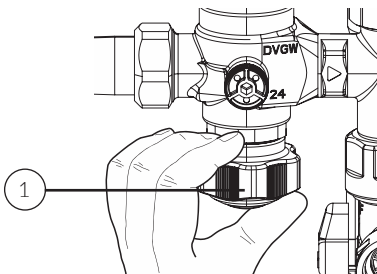
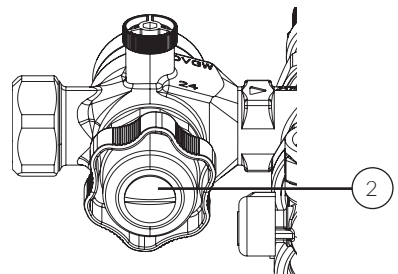

fig. 7
fig. 8
According to DIN 1988, the backflow preventer must be serviced once a year. The backflow preventer is located in the housing above the handle (1). To check the backflow preventer, turn the handle (1) clockwise as far as it will go (direction „CLOSED“) (fig. 7) and then back again 2 turns. Remove the plug (2) from the handle (fig. 8). If water continuously drips out of the opening, the RV must be cleaned or replaced.
Caution: Shut off the valve (turn handle (1) in direction „CLOSED“; see fig. 7) and relieve the pressure before unscrewing the upper part of the safety valve!